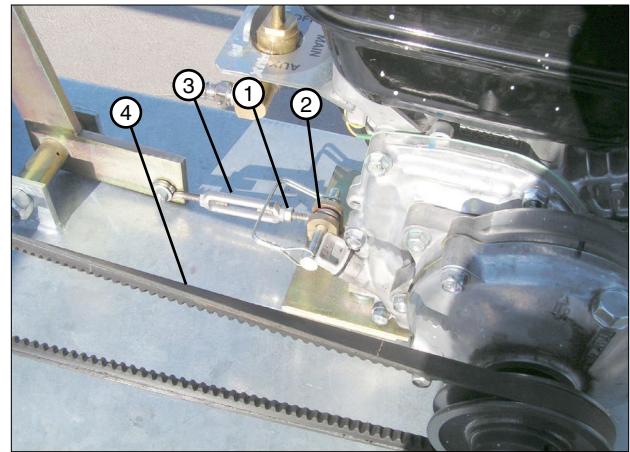

Figure 37-2 1. 1/4 in Hex Nut
2. Turn the turnbuckle counter clockwise to increase v-belt tension or turn the turnbuckle clockwise to reduce v-belt tension. See figure 37-2.